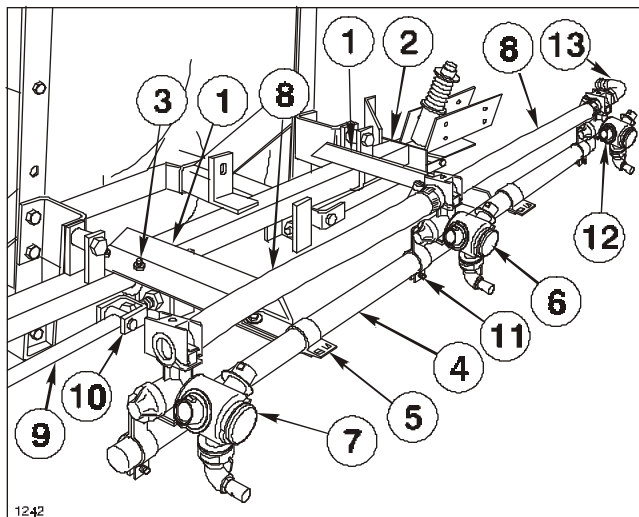

FIG. 14
7. Position the two (2) Center Boom angles on the Main Frame and secure them to the Main Frame tube with (2) square U-bolts, (4) flat washers and hex nuts. See FIG. 14.
8. Center and attach the Center Boom Pipe to the two Center Boom Angles with two (2) clamps, (2) 3/8" x 1" cap screws, flat washers and lock nuts. Once mounted, the Center Boom Pipe should be approx. 20" (508mm) from ground.
9. Loosely attach the Double Barb Turret Body with the Turret Body Clamp in the approximate center of the Center Boom Pipe. For the most uniform spray coverage, position all Nozzles level as shown in FIG. 14.
11. Place two Hose Clamps on two 3/4" x 19" Jumper Hoses and connect the two "end" Turret Bodies to the Double Barb Turret Body. Space nozzles 20" apart and tighten fasteners securely. Apply thread sealer and install the 90° 3/4" Hose Barb on the Threaded Turret Body. See FIG. 14.
12. Attach the two Strut Assemblies to the two adjustable clevis' found on each side of the Main Frame tube with two (2) 1/2" x 2" clevis pins and two (2) 1/8" x 1" cotter pins. See FIG. 14.
17. Adjust the Booms to a level position by adjusting the jam nuts on the adjustable clevis assemblies (See FIG. 14) to the desired position, then tighten the end nuts against the Main Frame plate.